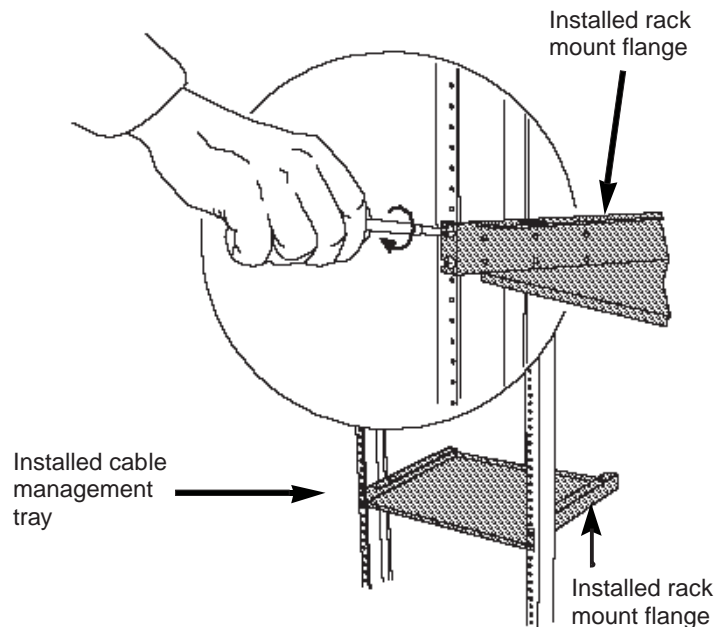

Figure 4. Installing the Cable Management Tray in a Rack
1. Attach the two rack mount flanges (supplied) to the Cable Management Tray using the flathead screws provided (eight, 8-32 x 1/4-inch screws, four per side). Install the screws using a Phillips-head screwdriver. Installed Cable Management Tray rack mount flanges are shown in Figure 4.
Figure 4 shows the Cable Management Tray in the rack.